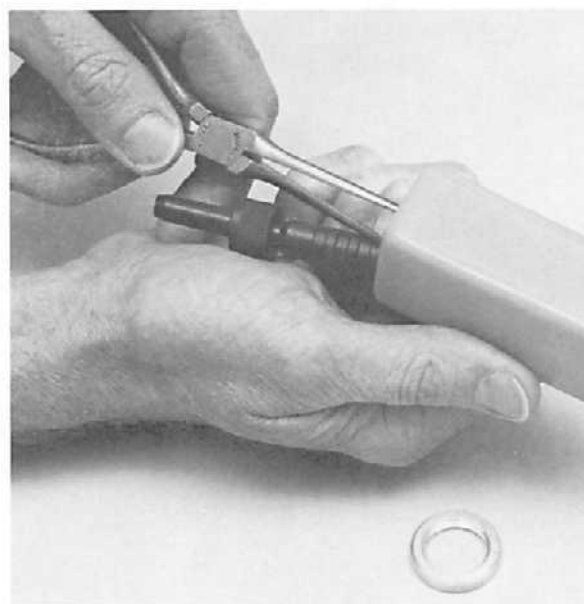

Figure 4-9.
8. The cable is a snug fit so it must be pushed through the housing. Push the cable until the H.V. connector contacts the rear of the housing. Use the long nose pliers to get the connectors through the hole (see Figure 4-9).